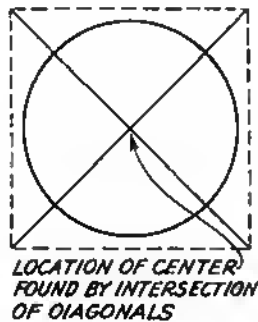

FIG. 117.
2. Find centers on the ends as in Fig. 117. Punch centers with nail set.